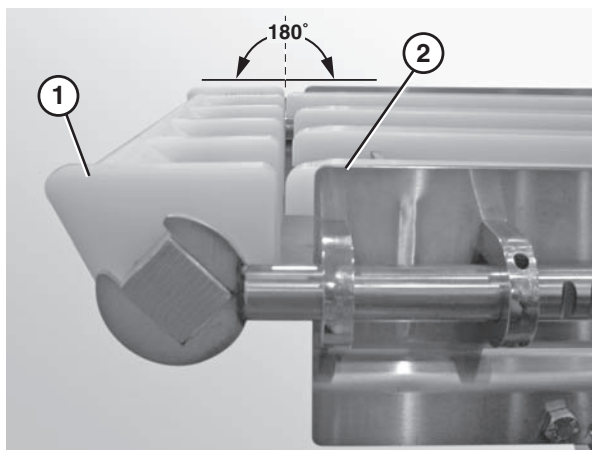

Figure 21
5. Ensure that the nose bar pucks (Figure 21, item 1) are in line with the conveyor frame (Figure 21, item 2).